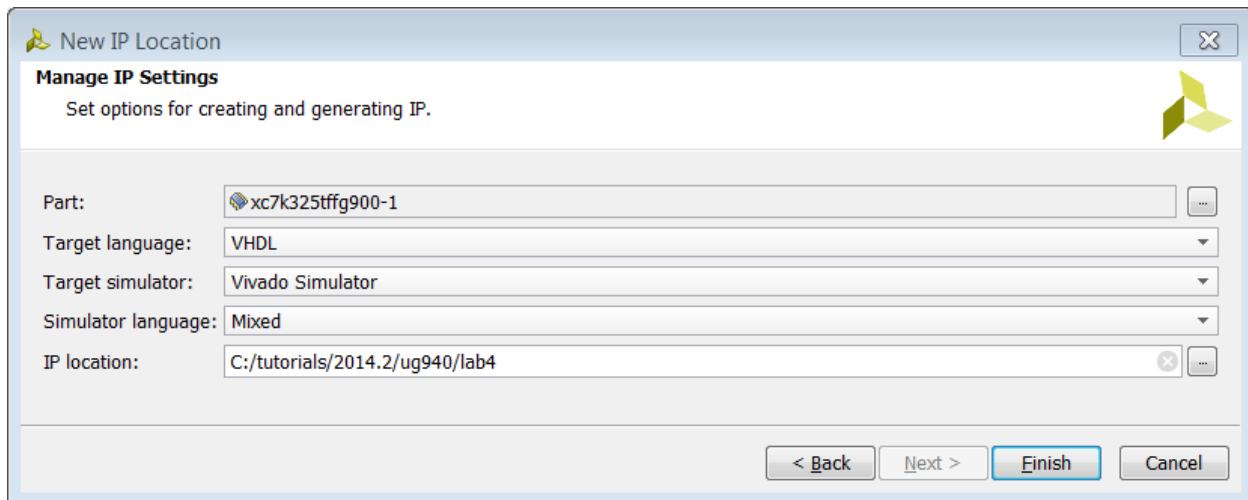

Figure 135: New IP Location Dialog Box
- Change the Target Language to **VHDL** (if not already selected) and Target Simulator as **Vivado Simulator**. Leave the Simulator language to **Mixed**. Change the Default IP Location to: **<Extract_Dir>/lab5** (FIGURE 135).